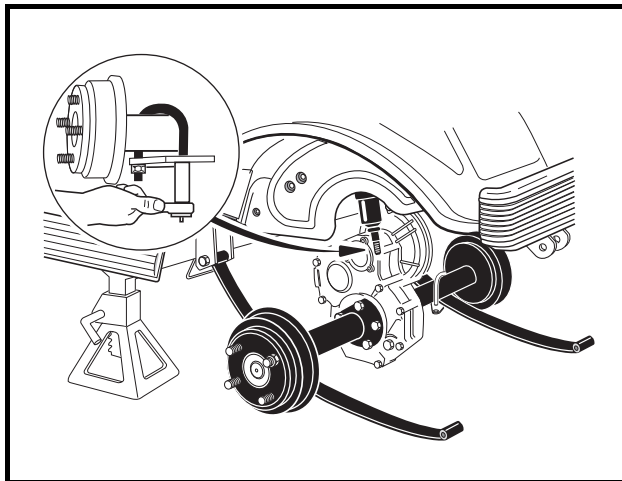

Figure 17-10 Leaf Springs
12. Remove the U-bolts attaching the transaxle to the leaf springs (**Figure 17-10, Page 17-6**).